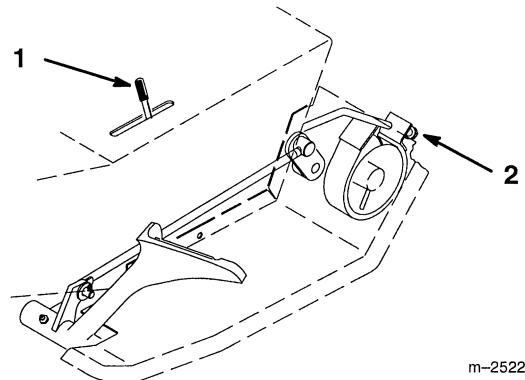

Figure 26
The brake adjustment is behind the left side cover (Fig. 26). If the parking brake does not hold securely, an adjustment is required.
3. To adjust the brake tighten adjustment nut until rear wheels skid, then tighten an additional 1/2 turn (Fig. 26).